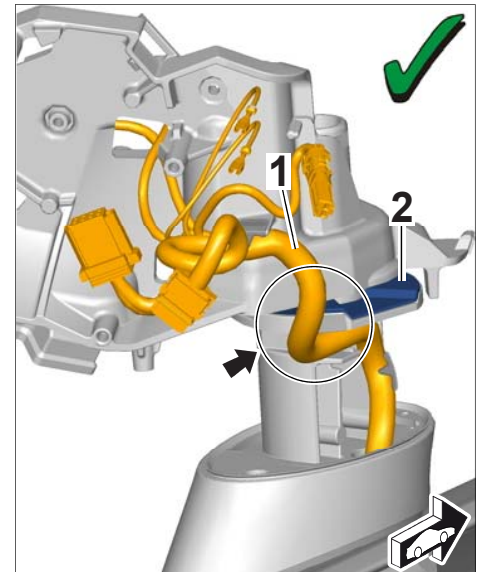

Figure 3
- 4.1 Route the wire harness ⇒ *Figure 3* -**item 1**- as shown in ⇒ *Figure 3* so that it is routed **in front of** the locking disc ⇒ *Figure 3* -**item 2**- on the mirror base.